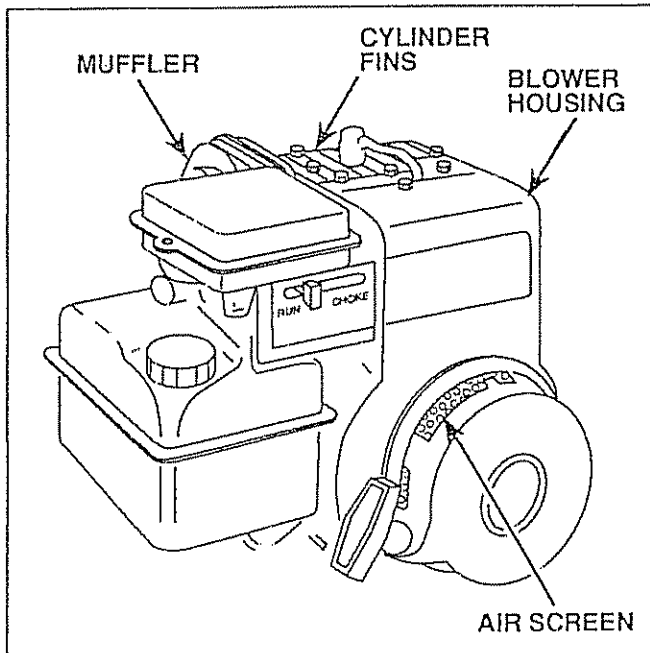

FIGURE 14
- Clean Air Screen (Fig. 14) frequently using a stiff bristled brush.